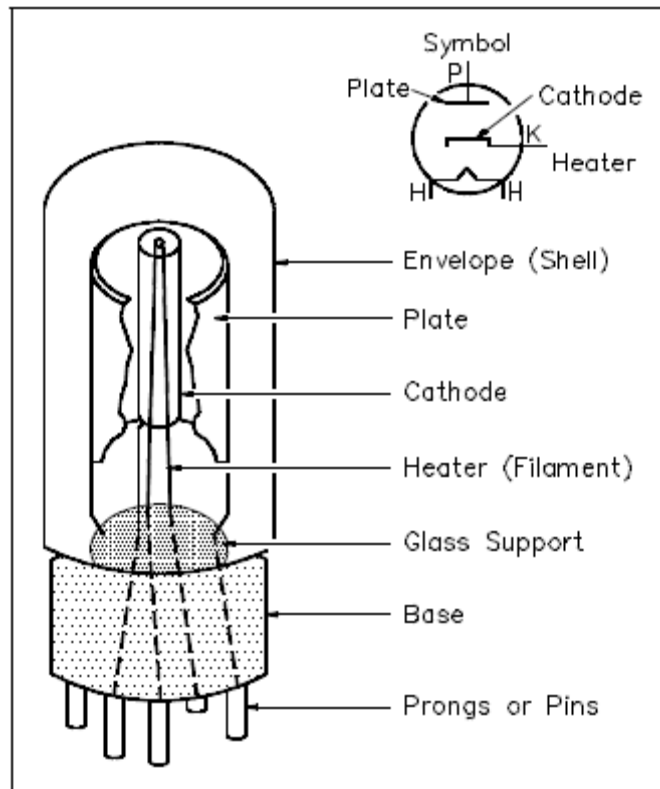

Figure 7. Vacuum Tube Diode
The simple example of a thermionic device is a vacuum tube diode in which the only electrodes are the cathode and plate, or anode, as shown in the figure 7. The diode can be used to convert alternating current (AC) flow to a pulsating direct current (DC) flow.